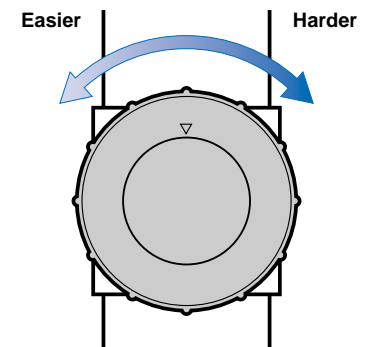

Fig.5
- Work rate (watt) is determined by the position of the workload adjustment dial, and your pedal cadence. (Fig.5)